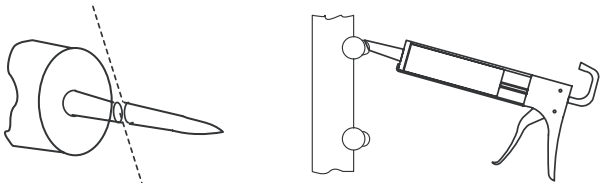

**Figure 35. Condenser angle and retaining screw**
12. Remove the power board cover retaining screws (3), then remove the cover.
21. Remove the condenser retaining screws. See Figure 35, page 38.
5. Install the condenser retaining screws. *Do not overtighten the condenser retaining screws.* For icemaker and/or dispenser models, refer to page 38. When installing new system in cabinets made prior to S/N , use only the top two condenser mounting tabs. Check the condenser angle as shown in Figure 35.